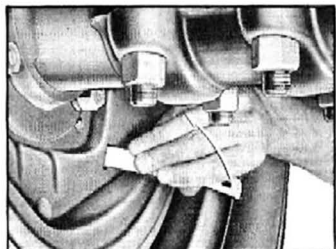

Fig. 35—Adjusting Twinplex Brakes
2. Using a suitable tool (fig. 35), turn rear adjusting screw until a light dragging contact is felt on the brake drum and then back off 3 notches. Turn front adjusting screw until a light dragging contact is felt on the brake drum and back off 3 notches. Install adjusting hole covers.